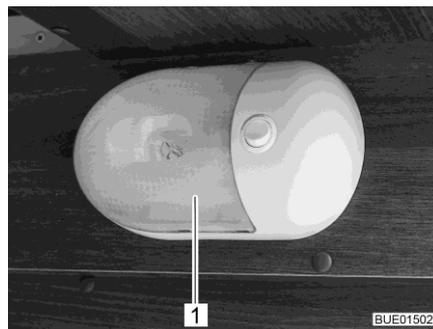

Fig. 301 Surface mounted light
- Carefully push the transparent cover (Fig. 301,1) together from both sides, pull it lightly from the switch and pull it off forwards.